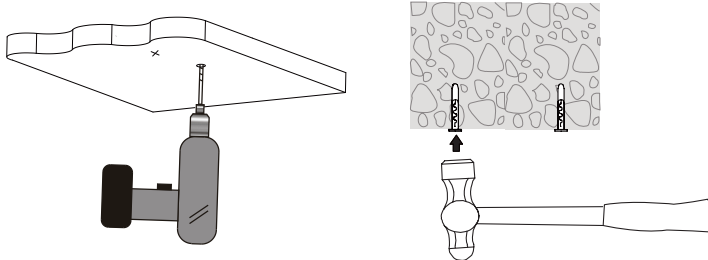

fig.4
3. Drill the holes, insert wall plugs (6mm dia.);(see fig.4);